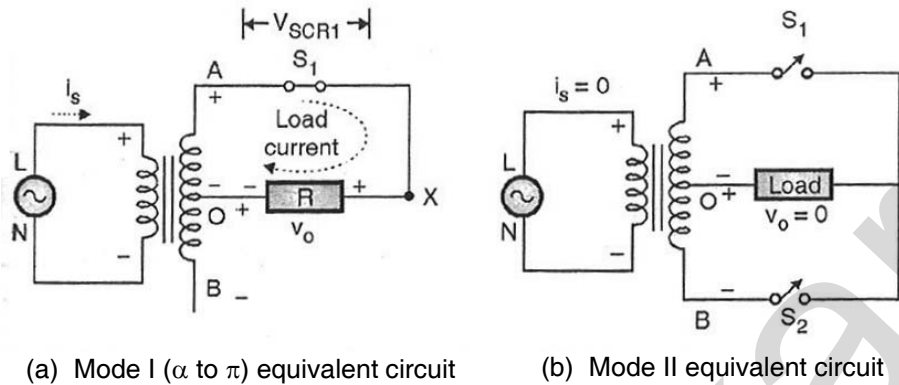

Fig. 2
- Mode I corresponds to the positive half cycle of the input supply. The polarity of ac mains supply is as shown in figure 2(a).
- This connects point A to the load as shown in figure 2(a).